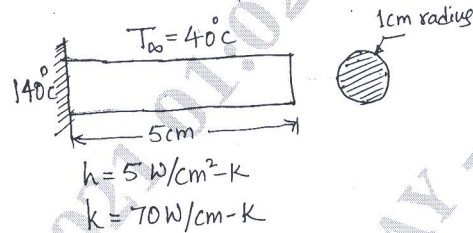

Fig. Q9 (b)
b. Find the temperature distribution in the 1D fin shown in Fig. Q9 (b). Take two elements for FE idealization. (10 Marks)